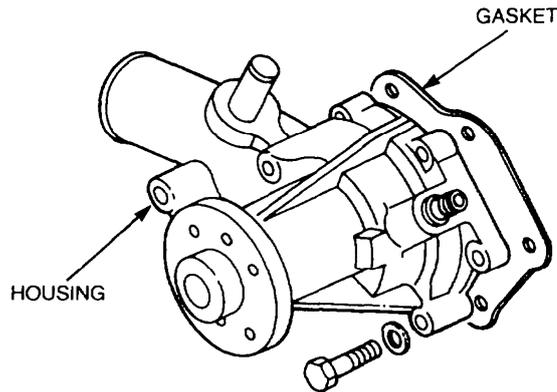

Figure 18 Water Pump Gasket Replacement
- j. Remove the hoses (Figure 18).